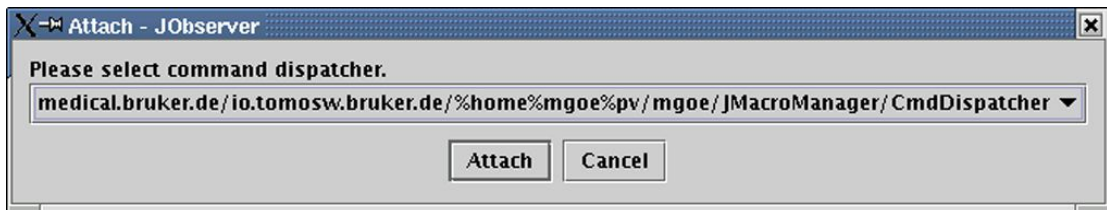

Figure 3.36: Attaching a Server Application to Cmd Observer
1. Attach to the server application to be observed (see [Figure 3.36 \[p 718\]](#)).